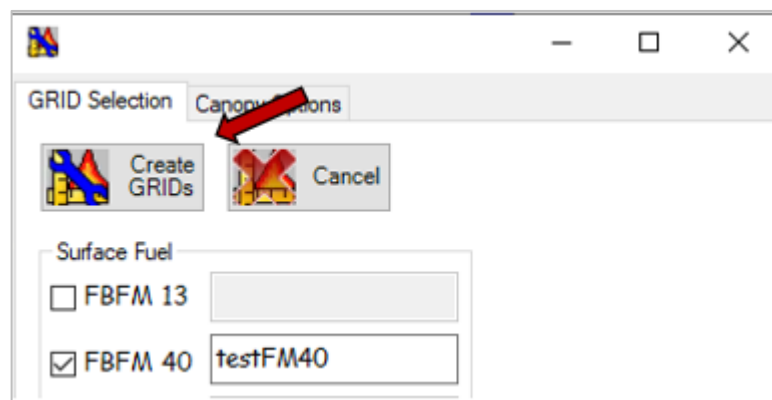

Figure 6-22. Click *Create GRIDs* button
- After you finish making your selections, click **Create GRIDs** (Figure 6-22).